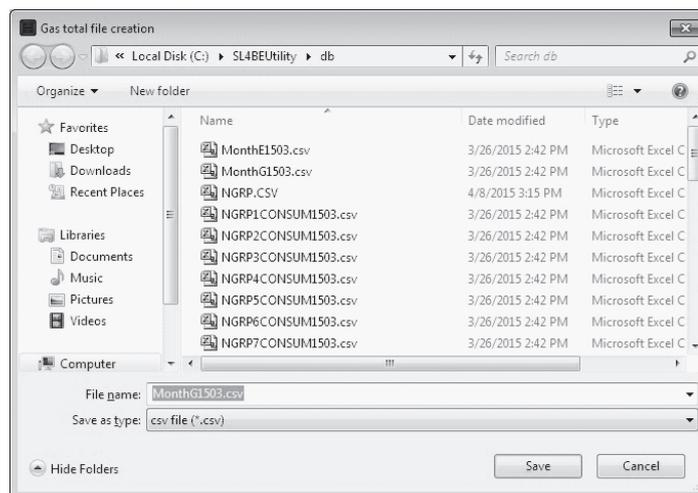

Fig.10-12 Input the file name dialog box
- b) When you click the check box “The gas energy consumption”, Fig.10-12 dialog box will appear. If you want to change the file name, the folder name and the drive name, select another drive name and the folder, and type another file name that you want.